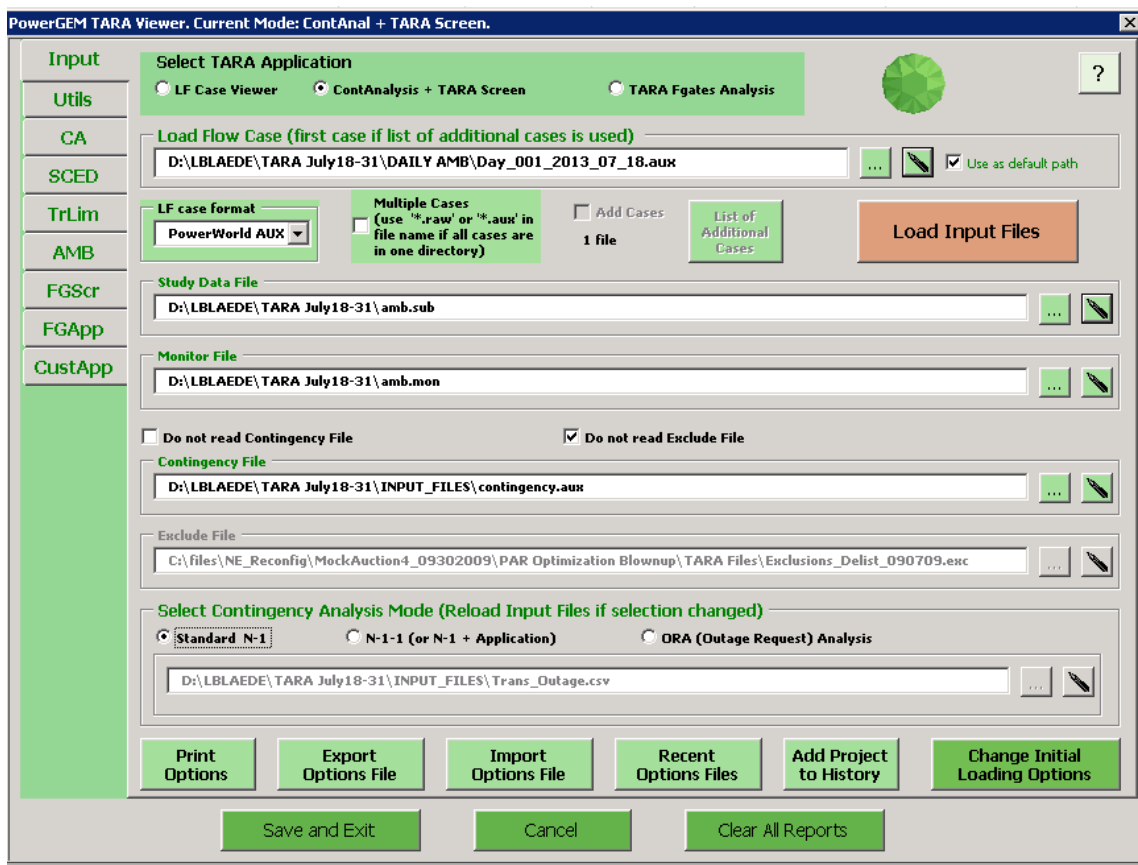

Fig. 1
- c. “Standard N-1” should be selected at the bottom. Settings are as shown in Fig. 1, below: